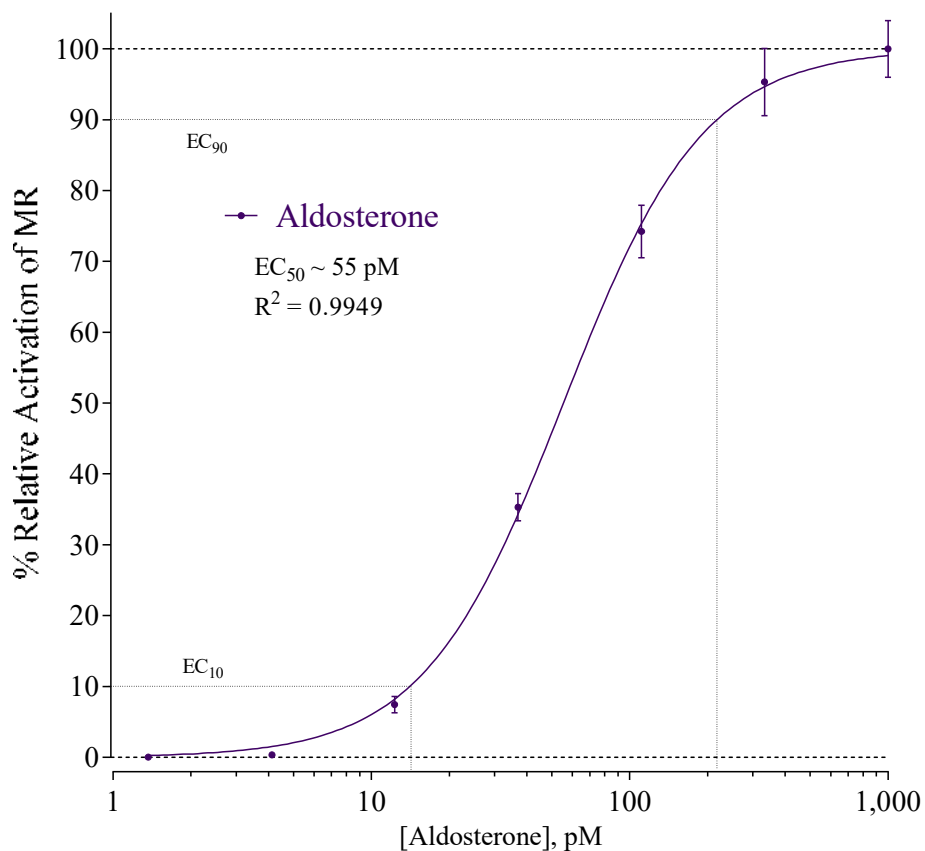

Figure 2. Generating a Standard Curve of MR activity.
a.) Prepare 2x-concentrated Treatment Media for the Aldo Standard Curve. This assay kit includes a 250 nM stock solution of Aldosterone, a reference agonist of MR. Use a portion of this stock to generate an Aldo Standard Curve, which will then be used to determine the Aldosterone-Bioequivalent (Aldo-BEq) activities of all test samples. Begin by using DMSO to generate intermediate stocks that are 250x-concentrated relative to each final assay concentration. Next, perform a 125-fold dilution of these intermediate stocks by transferring a portion of each into CSM, thereby generating **2x-concentrated** Treatment Media, to be used in *Step 10*. As depicted in **APPENDIX 1**, the following 7-point treatment series (in terms of *final* assay concentrations), prepared in serial 3-fold decrements, is recommended for use in generating the Standard Curve: 1000, 3.3, 111, 37.0, 12.3, 4.12, 1.37 and 0.457 pM Aldosterone. Always include a ‘vehicle only’ control, which will be 0.4% DMSO. A representative plot of a typical Aldosterone Standard Curve is depicted in **Figure 2**.
19.) **Data Analyses.** Many agencies have adopted acceptance criteria for functional bioassays based on units of *Percent Relative Activation* of the receptor. As an example, the representative Aldosterone Standard Curve depicted in **Figure 2** is constructed in terms of those units. **APPENDIX 3** provides guidance for the mathematical manipulation of raw RLU measurements to achieve final calculations of '% Relative Activation of MR'. That series of calculations may be applied to all Control and Test samples.